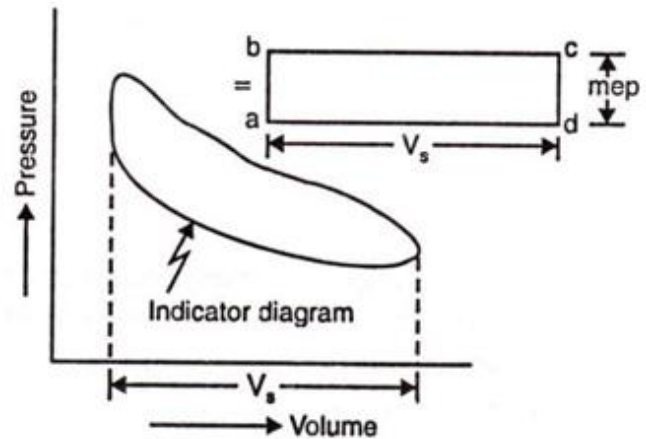

Fig. 7.1 Engine Indicator Diagram
- The pressure variation versus volume inside the cylinder of a reciprocating engine is plotted with the help of an engine indicator. The resulting contour is closed one and is referred to as indicator diagram as shown in Fig. 7.1.